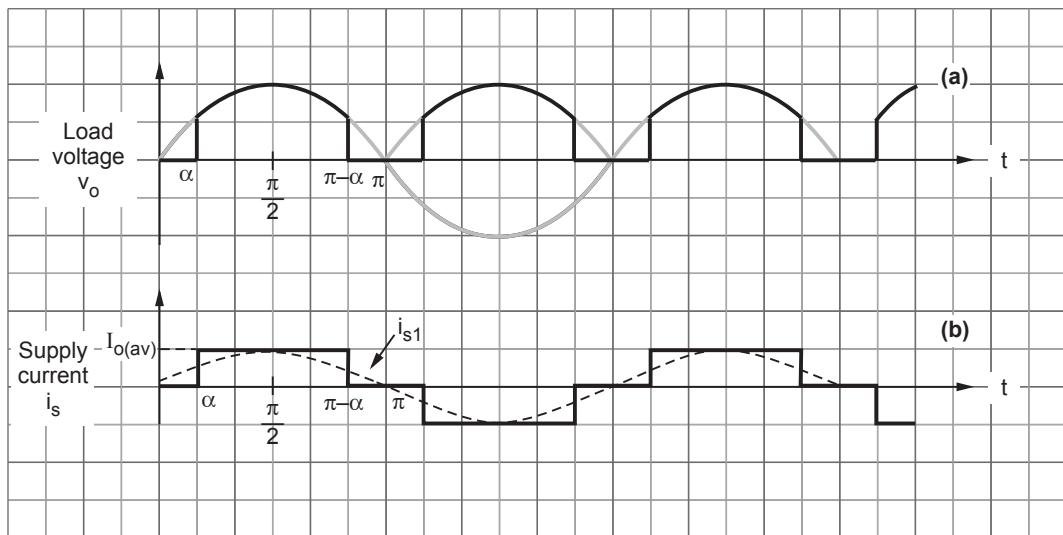

Fig. 2.5.3 Waveforms of symmetrical angle control
Fig. 2.5.3 shows the waveforms of symmetrical angle control.
- The SCR T_1 is triggered at α and turned off at $\pi-\alpha$. Thus $\beta = \pi - \alpha$. Fig. 2.5.3 (b) shows the supply current waveform for ripple free load current. Observe that the supply current pulse is symmetric around $\frac{\pi}{2}$.
- The dotted line in Fig. 2.5.3 (b) shows fundamental component (i_{s1}) of supply current. Note that this fundamental component is in phase with respect to supply voltage. Therefore displacement factor is unity. This improves power factor.